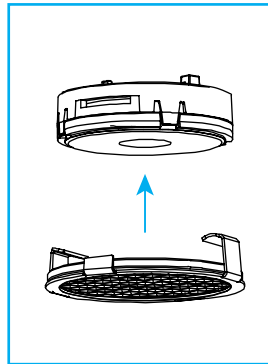

Fig.48
C. To install honeycomb louver, raise up and clip onto optic *"Fig.48"*.